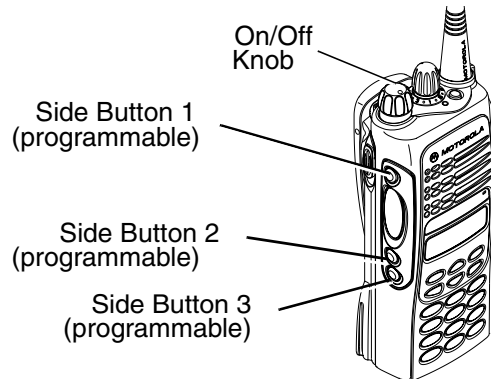

Figure 5-3: Radio Side Button Locations
4. On source radio, simultaneously press 'side buttons 1 and 2', shown in Figure 5-3, then turn radio on. Both radios produce a "clone-entry" tone and turn on their green LEDs. Display radios show "**Cloning To**" (source radio) and "**Program**" (target radio).